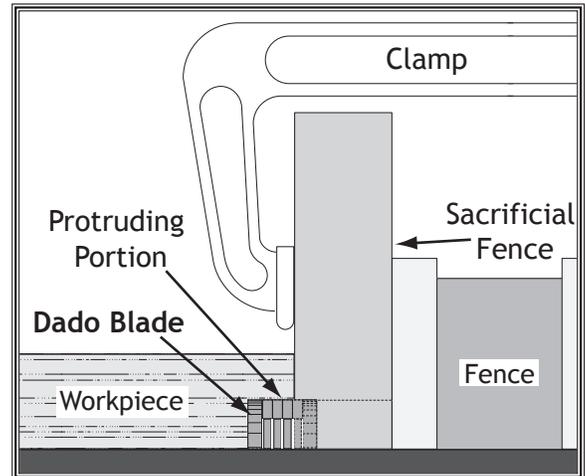

Figure 68. Rabbet cutting.
4. Position fence so dado blade protrudes beyond fence the same amount as desired width of rabbet (see **Figure 68**).